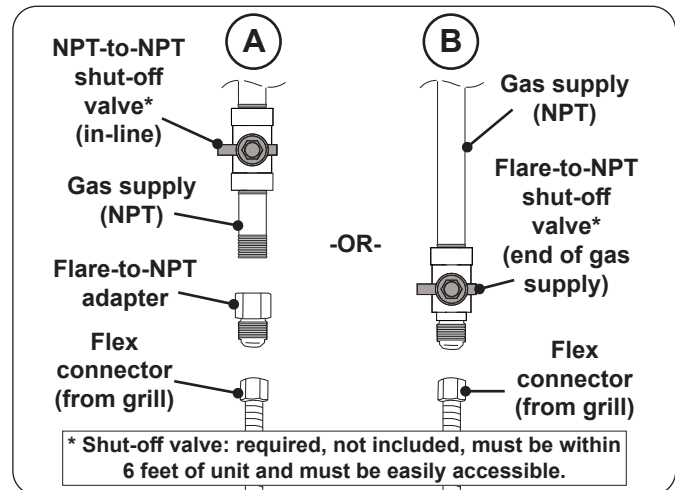

Fig. 26-2 Connecting to a gas line
- Install the supplied flare-to-NPT adapter to the gas supply (NPT) using a pipe joint compound resistant to all gasses (see Fig. 26-2, A). Tighten securely.
- Connect the flex connector to the adapter (see Fig. 26-2, A). Tighten securely.
- Connect the flex connector to the shut-off valve (flare) (see Fig. 26-2, B). Tighten securely.